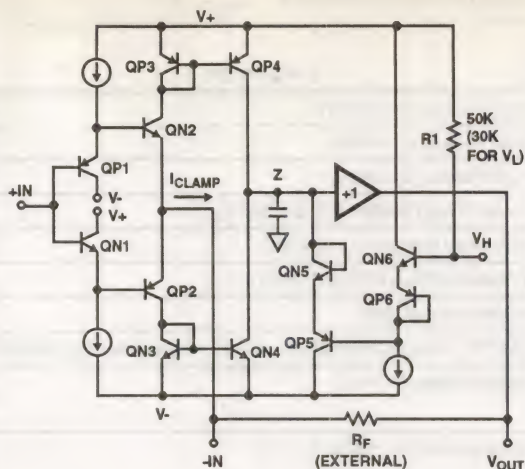

FIGURE 1. HFA1130 SIMPLIFIED  $V_H$  CLAMP CIRCUITRY
Figure 1 shows a simplified schematic of the HFA1130 input stage, and the high clamp ( $V_H$ ) circuitry. As with all current feedback amplifiers, there is a unity gain buffer (QX1 - QX2) between the positive and negative inputs. This buffer forces  $-IN$  to track  $+IN$ , and sets up a slewing current of  $(V_{IN} - V_{OUT})/R_F$ . This current is mirrored onto the high impedance node (Z) by QX3-QX4, where it is converted to a voltage and fed to the output via another unity gain buffer. If no clamping is utilized, the high impedance node may swing within the limits defined by QP4 and QN4. Note that when the output reaches its quiescent value, the current flowing through  $-IN$  is reduced to only that small current ( $-I_{BIAS}$ ) required to keep the output at the final voltage.
The clamped output voltage will not be exactly equal to the voltage applied to  $V_H$  or  $V_L$ . Offset errors, mostly due to  $V_{BE}$  mismatches, necessitate a clamp accuracy parameter which is found in the device specifications. Clamp accuracy is a function of the clamping conditions. Referring again to Figure 1, it can be seen that one component of clamp accuracy is the  $V_{BE}$  mismatch between the QX6 transistors, and the QX5 transistors. If the transistors always ran at the same current level there would be no  $V_{BE}$  mismatch, and no contribution to the inaccuracy. The QX6 transistors are biased at a constant current, but as described earlier, the current through QX5 is equivalent to  $I_{CLAMP}$ .  $V_{BE}$  increases as  $I_{CLAMP}$  increases, causing the clamped output voltage to increase as well.  $I_{CLAMP}$  is a function of the overdrive level ( $V_{IN} - V_{OUT\text{ clamped}}$ ) and  $R_F$ , so clamp accuracy degrades as the overdrive increases, or as  $R_F$  decreases. As an example, the specified accuracy of  $\pm 60mV$  for a 2X overdrive with  $R_F = 510\Omega$